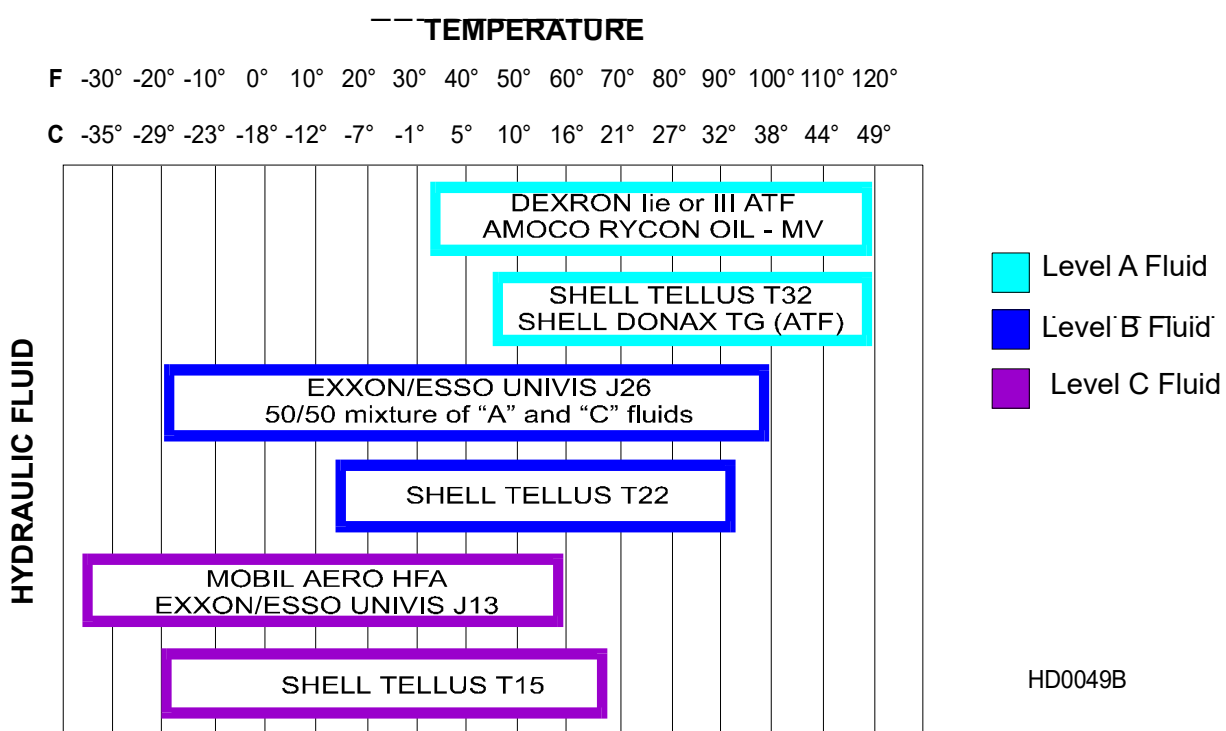

FIG. 3-10
**See Figure 3-10.** If you are operating in temperatures -20° to 100° F (-29° to 38° C), use an all-weather hydraulic fluid such as Exxon Univis J26. For alternate fluids and/or other temperature ranges, refer to the chart below. Operating above the recommended temperature range of a fluid could result in excessive pump wear. Operating below the recommended temperature range could result in reduced hydraulic cylinder speed.